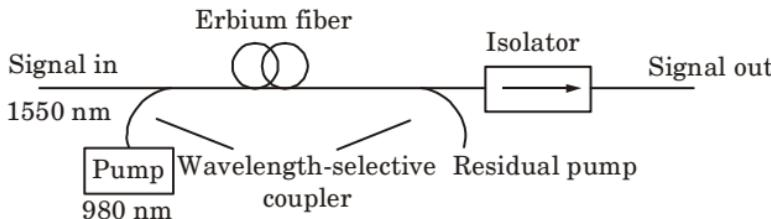

Fig. 7. An erbium-doped fiber amplifier.
1. It consists of a length of silica fiber whose core is doped with ionized atoms (ions), Er^{3+} , of the rare earth element erbium as shown in Fig. 7.